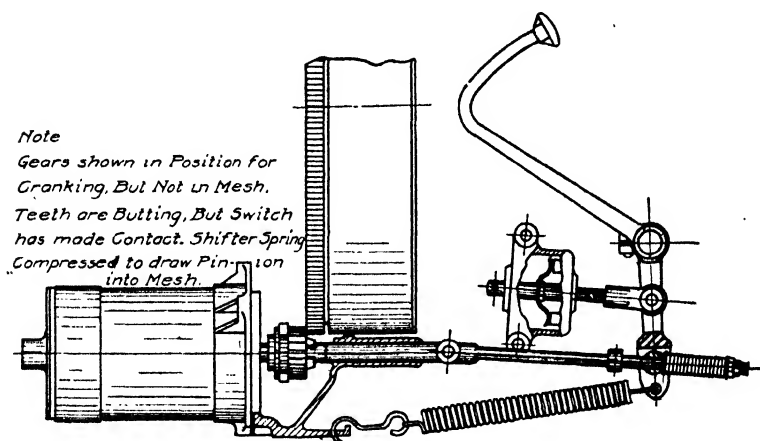

Fig. 227. Bijur Starting Motor as Installed on the Hupp
**Starting Motor.** This is of the series-wound multipolar type. The installation of motor and starting switch as mounted on Hupp cars is shown in Fig. 227.